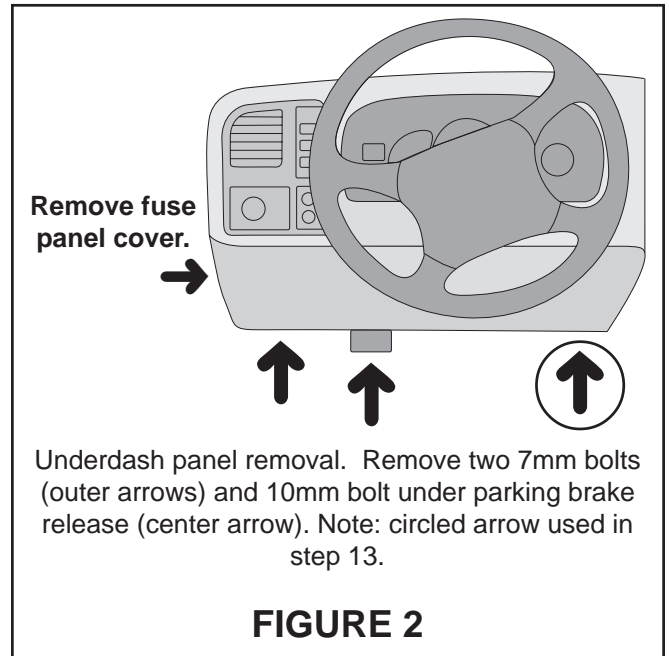

FIGURE 2
Figure Reference: Figure 2
- ⇒ Remove three bolts in positions indicated in Fig. 2
Figure reference: Figure 2
⇒ Make sure wires from activator switch have enough slack to allow switch and attached bracket to be mounted on screw with circled location as shown fig. 2. Do not mount activator switch at this time.